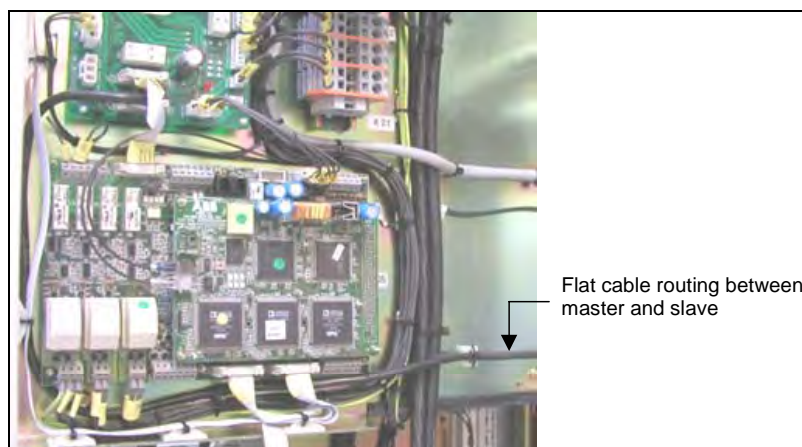

Figure 7.34. Flat cable routing from master to slave unit
- Secure the interconnection flat cable properly and plug its free end in the previous unit's distribution board (connector X8). The flat cable plugs cannot be inserted wrongly in their sockets. Figure 7.34. shows flat cable routing in the master unit to the slave unit.